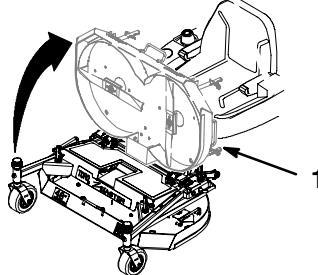

Figure 20
5. Standing in front of the mower, lift up on deck handle and push rearward on front to raise mower (Fig. 20).
2. Standing in front of the mower, pull front deck handle forward and lower mower (Fig. 20).